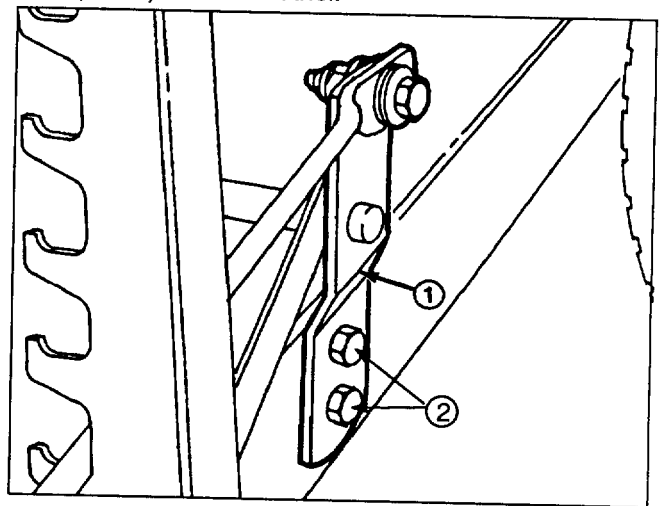

Figure 33
5. If blade tip height is not within 1/8 inch (3 mm), level cutting unit by loosening height-of-cut support bracket cap screws and raising or lowering the bracket (Fig. 33).